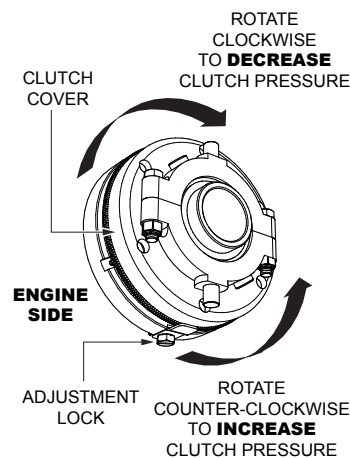

Figure 40. Clutch Adjustment Lock Location
5. Refer to Figure 40 for steps 5A through 5G: